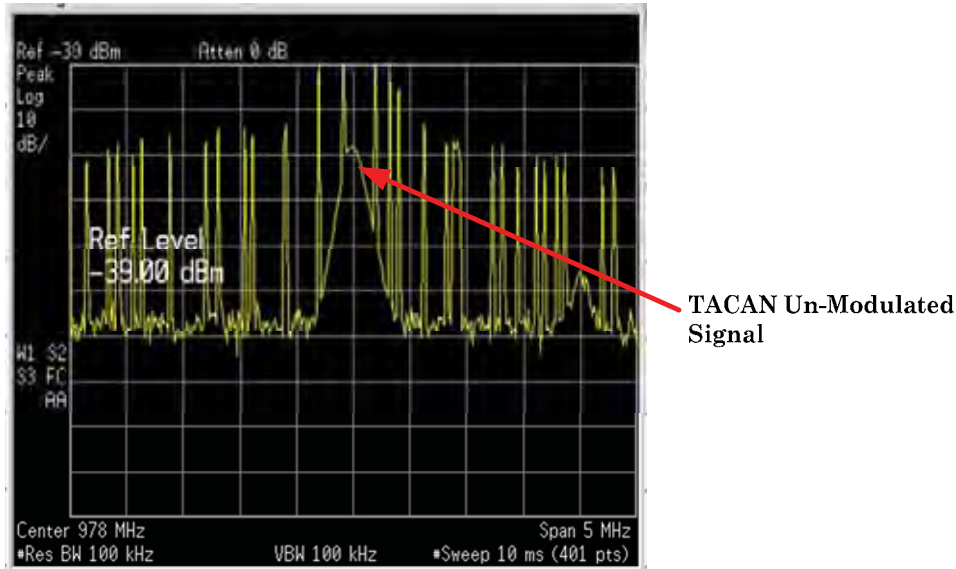

Figure 2. TACAN un-modulated signal.
(19) Set spectrum analyzer center frequency to 978 MHz, amplitude reference level to 5 dBm, span to zero span, resolution BW to 3 MHz, video BW to **AUTO**, scale/div to 1 dB and averaging to **OFF**.
(20) Set TI to channel 17X and utilizing spectrum analyzer marker feature measure TI power out. If spectrum analyzer indication is not 1 dBm ± 3 dB (0 dBm ± 2 dB, model T-47G), perform Section IV below.
(21) Set TI **UUT FUNCTION** switch to **TACAN** and set TI to channel 17X.
(22) Set spectrum analyzer center frequency to 978 MHz, amplitude reference level to -25 dBm, span to 5 MHz, resolution BW to 100 kHz, video BW to 100 kHz, scale/div to 10 dB and sweep to 10 ms.
(23) Acquire signal and then decrease spectrum analyzer amplitude setting to view TI un-modulated signal as shown in figure 2 below. If spectrum analyzer center frequency indication is not within limits specified in first row of table 7, perform Section IV below.
(24) Repeat technique of (21) through (23) above using TI and spectrum analyzer settings listed in table 7. If spectrum analyzer center frequency indications are not within limits specified in table 7, perform Section IV below.